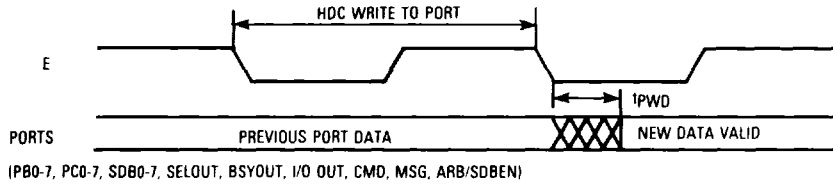

Figure 19. Port Write Timing Diagram
**PORT READ AND WRITE TIMING** (see Figures 19 and 20)